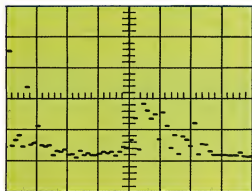

Figure 3. Vowel "A" spectrum as in "pay".
- 18 **MISNESTED FOR NEXT LOOPS.** The computer has detected an improper nesting for multiple "FOR ... NEXT" statements. See Figure 3 for an explanation of the proper and improper way to nest "FOR ... NEXT" statements.